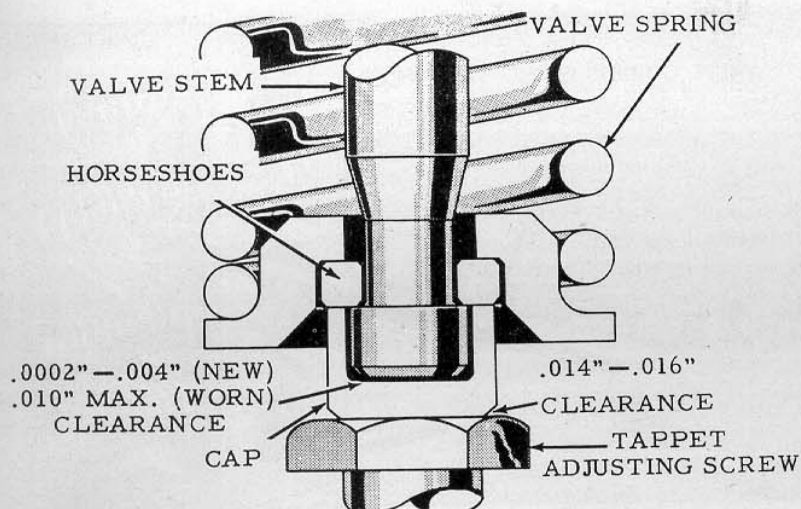

Fig. FO17—Free valve type exhaust valve rotators used on later engines and available in kit form for early engines.
23. Some 8N engines are equipped with free valve type exhaust valve rotators which are also available as a kit for engines not so equipped. Kit contains among other items, 8 adjustable type tappets (pushrods), 4 exhaust valves equipped with special caps and horseshoe type spring retainers as shown in Fig. FO17. Tappet clearances of .010-.012 cold for inlet and .014-.016 cold for exhaust valves are same as on non-adjustable tappets, but rotator caps must be adjusted as outlined in paragraph 27.
27. **FREE TYPE EXHAUST VALVES.** On engines with free type exhaust valve rotators Fig. FO17 a gap or end clearance of .0002 to .004 must exist between cap and end of valve stem as shown. One method of checking this gap with valve installed in engine is shown in Fig. FO19. Valve must be off its seat when making this check. If clearance is more than .004 reduce the length of cap by lapping open end of same on emery cloth laid on a flat smooth surface. If clearance is less than .002 install new valve keys or, if keys are not worn, grind end of valve stem until